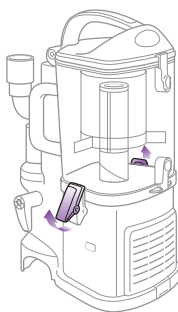

Fig. 17
- 1 Undo the latches on the sides of the dust cup by lifting them up and outwards to remove the dust cup from the motor base. **(Fig. 17)**